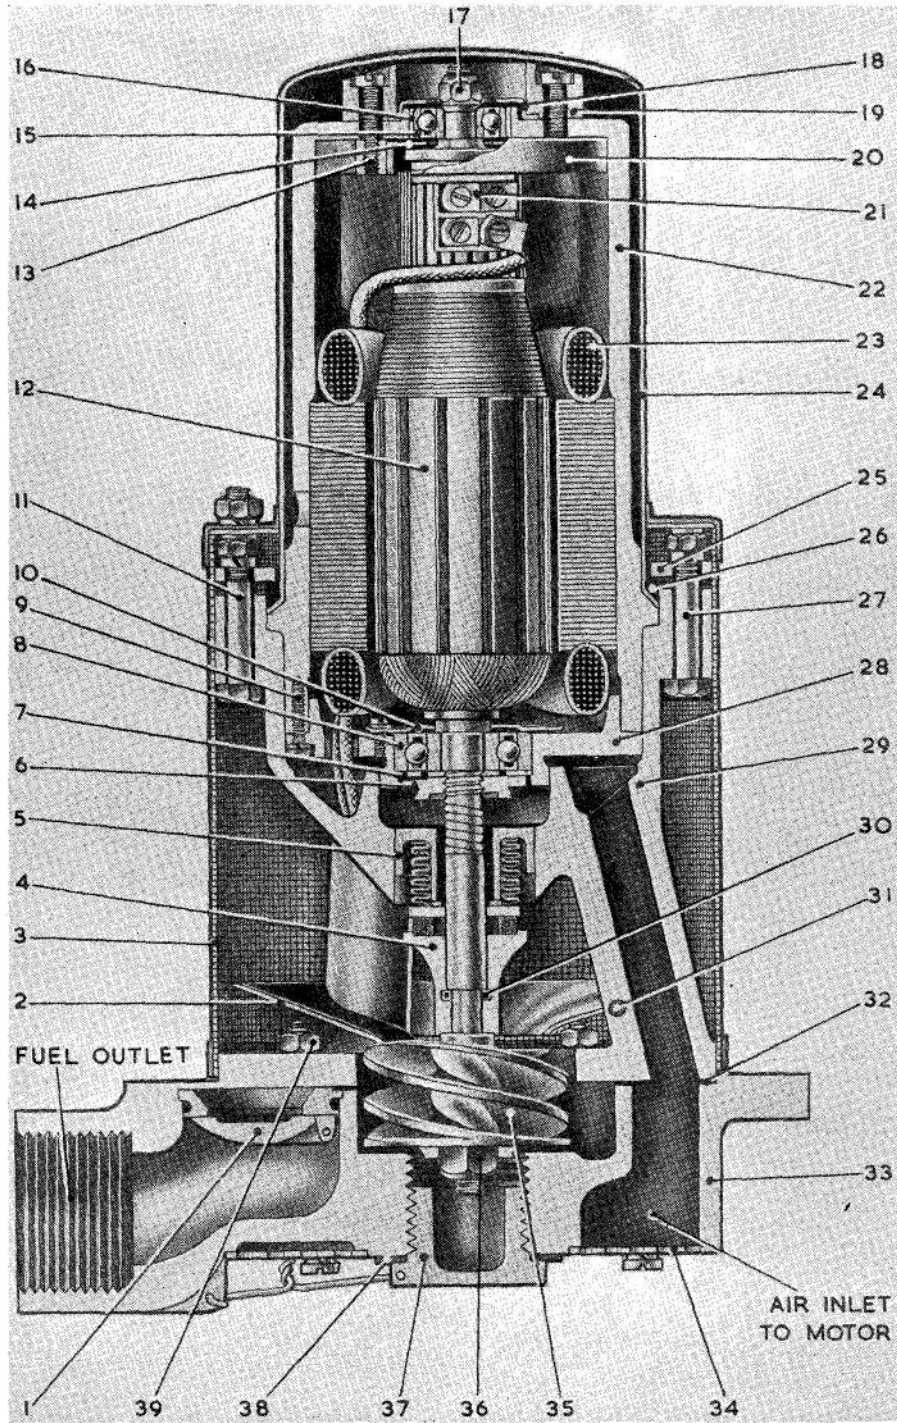
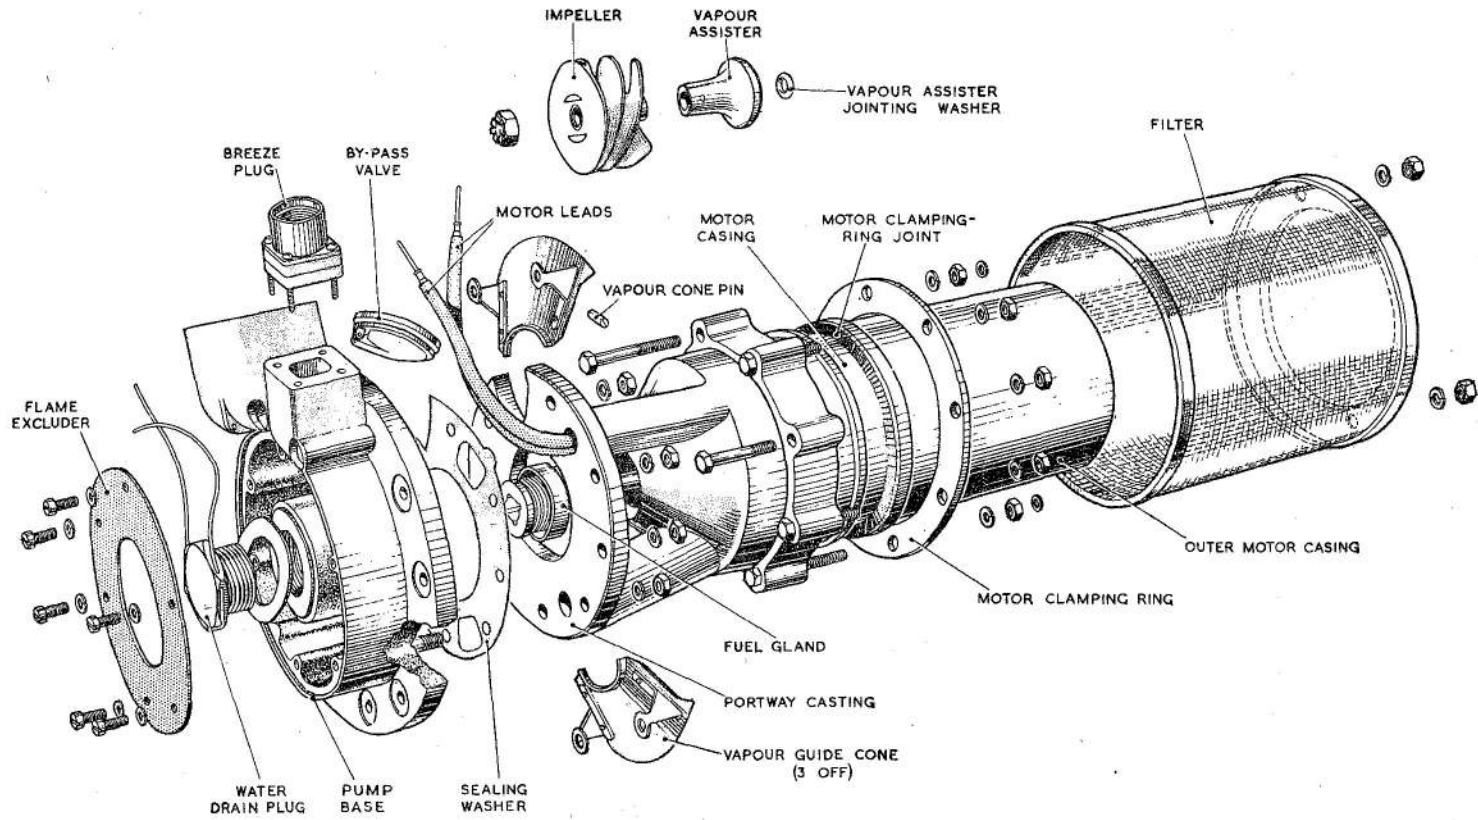

Fig. 2. Sectional view of SPE403, Mk. I pump
Fig. 3. Exploded view of SPE403, Mk. I pump
KEY TO FIG 2
5. When dismantling the SPE pump the precautions given in A.P.4343, Vol. 6, Sect. 16, Chap. 1 must be observed, especially with regard to cleanliness, avoiding damage to the impeller, marking mating parts, and safe retention of small components. Reference to fig. 2 and 3 should assist in the dismantling operations.
7. Tap the portway casting free from the pump base casting, using a raw hide mallet to break the joint; the paper gasket at the joint will be damaged and should be discarded. Then detach the three sectors of the vapour guide cone (fig. 2 and 3) by sliding them off their locating pins (fig 3) in the legs of the portway casting.
22. Place the lower bearing retainer plate on the armature shaft, making sure that it is fitted with the clamping face towards the driving end (fig. 2). Press the bearing on to the shaft, making sure that the bearing is adequately lubricated. Fit the associated grease shield in position in the motor end-frame, press the frame on to the bearing, and secure the bearing retaining plate to the end-
31. Slide the three vapour guide cone sectors (fig 3) into the slotted pins fitted in the legs of the portway casting and secure them in position with the associated nuts and spring washers.